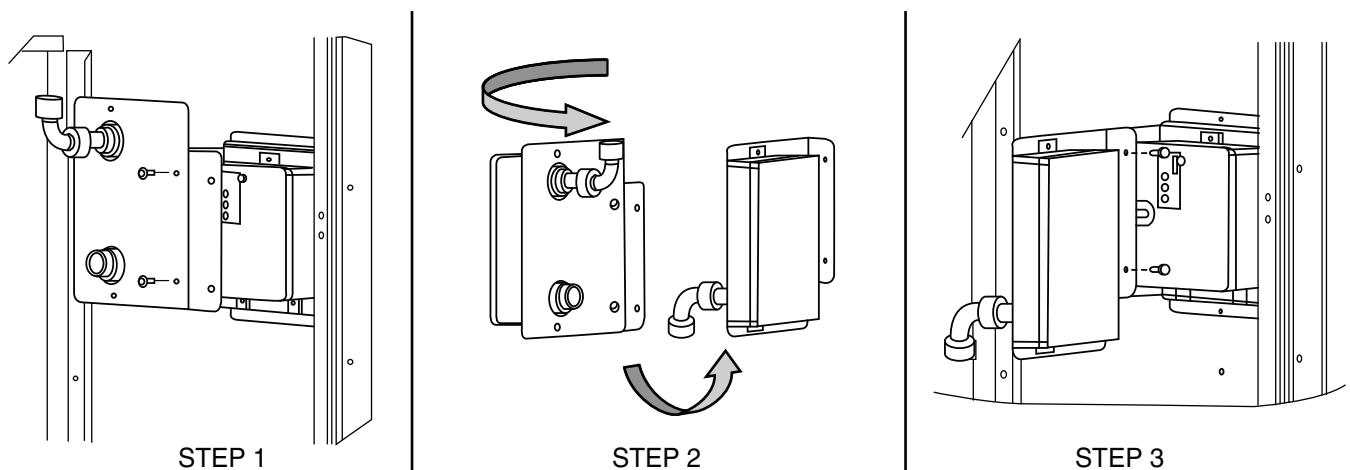

Fig. 48 — Completing Installation of Return Air Smoke Sensor
1. Unscrew the two screws holding the return-air smoke detector assembly. See Fig. 48, Step 1. Save the screws.
2. Turn the assembly 90 degrees and then rotate end to end. Make sure that the elbow fitting is pointing down. See Fig. 48, Step 2.
3. Screw the sensor and detector plate into its operating position using screws from Step 1. See Fig. 48, Step 3.